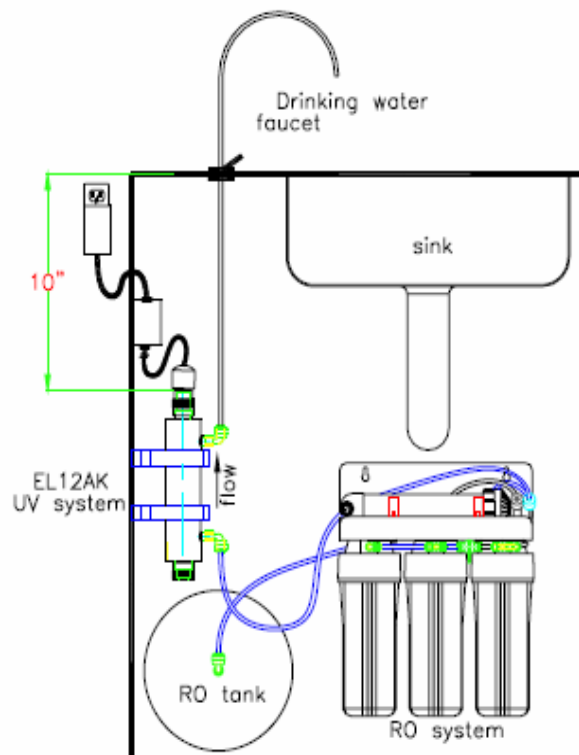

Figure 1.
Your UV disinfection system should be located on the PE tube that connects the RO water storage tank or the carbon filter system to the sink faucet. Choose a location for the unit installation with easy access to a 120VAC electrical outlet. Refer to figure 1 for the typical installation diagram and ensure that you have all the fittings necessary for your installation.
A minimum distance of 28 cm clearance is necessary to remove the UV lamp from the reactor. If this is not practical the reactor can be removed from the mounting clips for maintenance. See figure 1.
6. Cut the existing tube that runs from the carbon filter or the RO water storage tank at a place convenient to the location of the UV system. Attach the tube from the tank or the carbon filter to the UV inlet and the tube from the faucet to the UV outlet. Insert the tube into the white compression fittings until it reaches the stop; tighten the compression nut hand tight, plus $\frac{1}{4}$ to $\frac{1}{2}$ turn until snug. **DO NOT OVERTIGHTEN.** Gently tug on the tube to assure a tight connection has been made. See Figure 1.